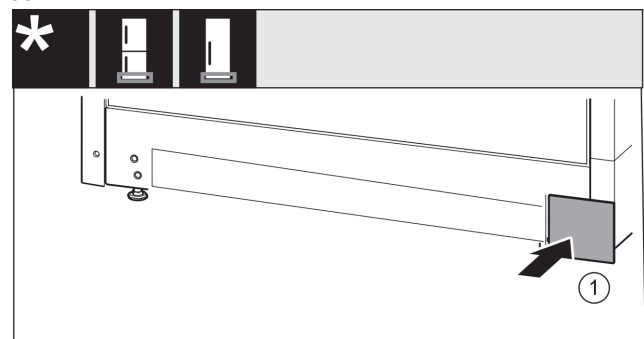

Fig. 37
- Re-attach the cover Fig. 37 (1) on the other side.